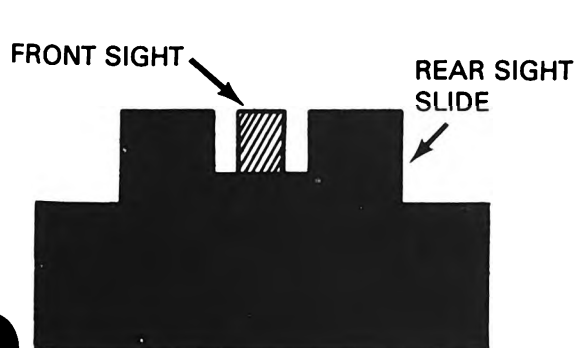

Figure 1.
- a. Sight alinement: The gunner centers the front sight blade in the aperture of the rear sight slide with the top of the front sight blade even with the top of the right slide (figure 1).